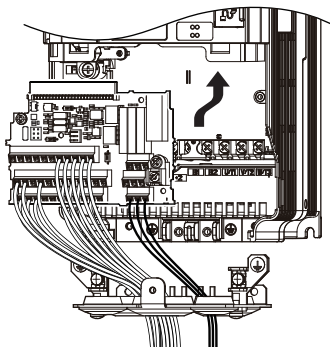

Figure 7.72 Install the Terminal Board
- After wiring the main circuit, connect the terminal block to the drive as shown in Figure 7.72. Use the installation screw (M3: 0.49 - 0.73 N·m) to fasten the terminal block into place.